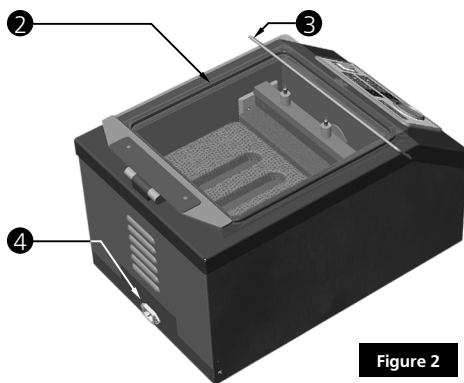
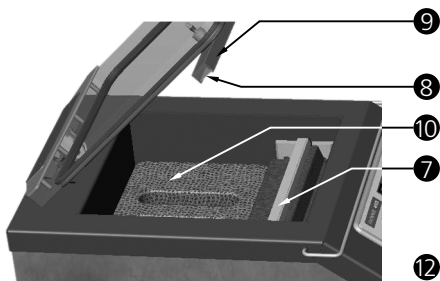
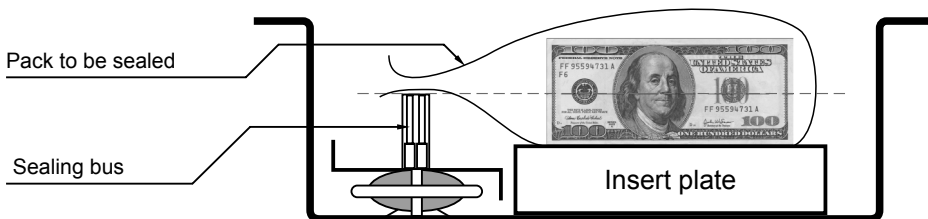

Figure 2
Figure 3
Figure 5 Packing order.
When packing a bundle of less than 50 banknotes it is recommended to use the additional plate ❿ (see Fig. 3). The additional plate allows for “tighter” packing of an incomplete bundle.
1. Open the front cover by shifting the cover lock ❸ (see Fig. 2);
2. Insert the additional plate ❿ into the working chamber if necessary;
3. Put a polyethylene pack (containing banknotes) into the working chamber so that the seal side of the pack is situated about **1 cm** (see Fig. 5) beyond the heating element ❶ (see Fig. 3);